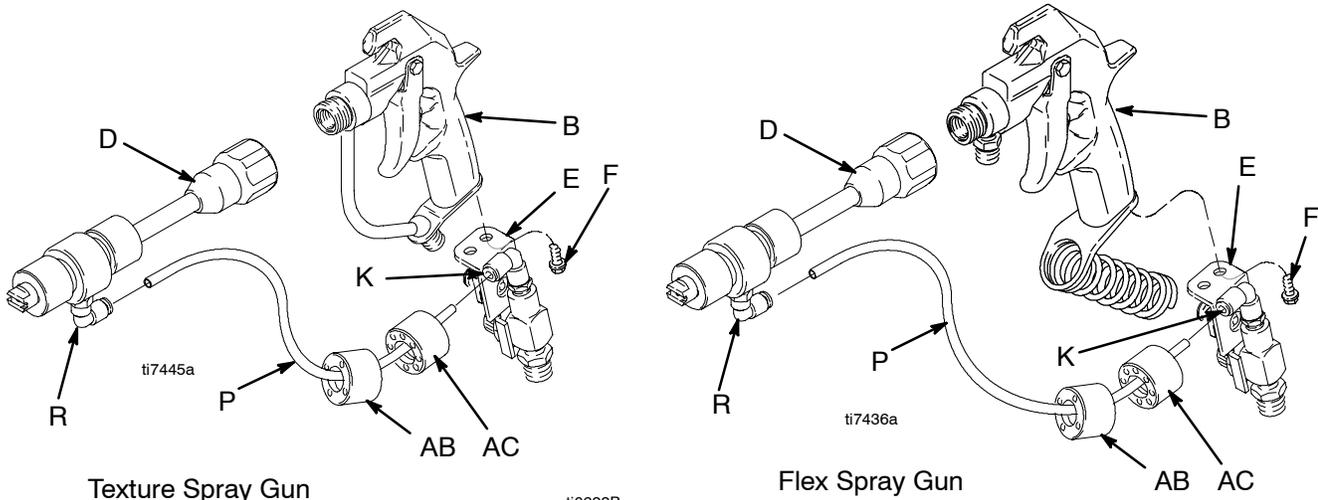

Fig. 1
1. Fig. 1. Remove two existing screws (F) from spray gun handle.
2. Install air atomizer assembly onto gun handle bracket with two screws (F)
3. Remove air hose (P) from fitting (R). Push in on fitting and pull out on air hose.
4. Install air atomizer head (D) to spray gun (B).
5. Push air tube (P) into 90° swivel elbows (R) and (K).